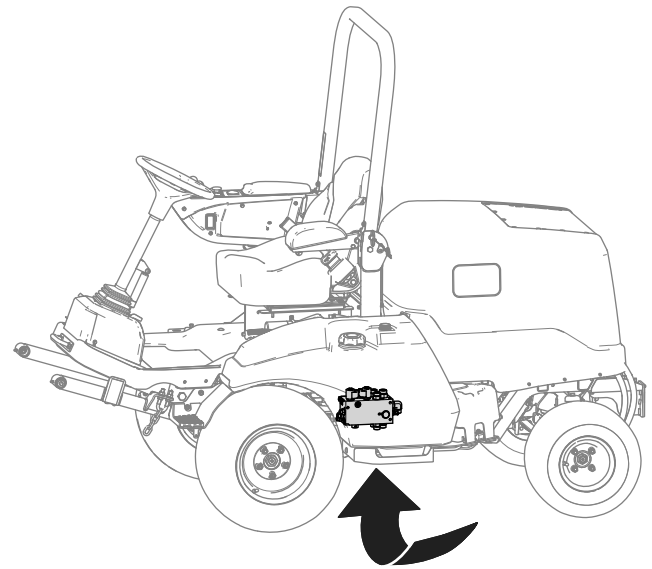

Figure 20
3. Locate the lift manifold from under the machine (Figure 20).